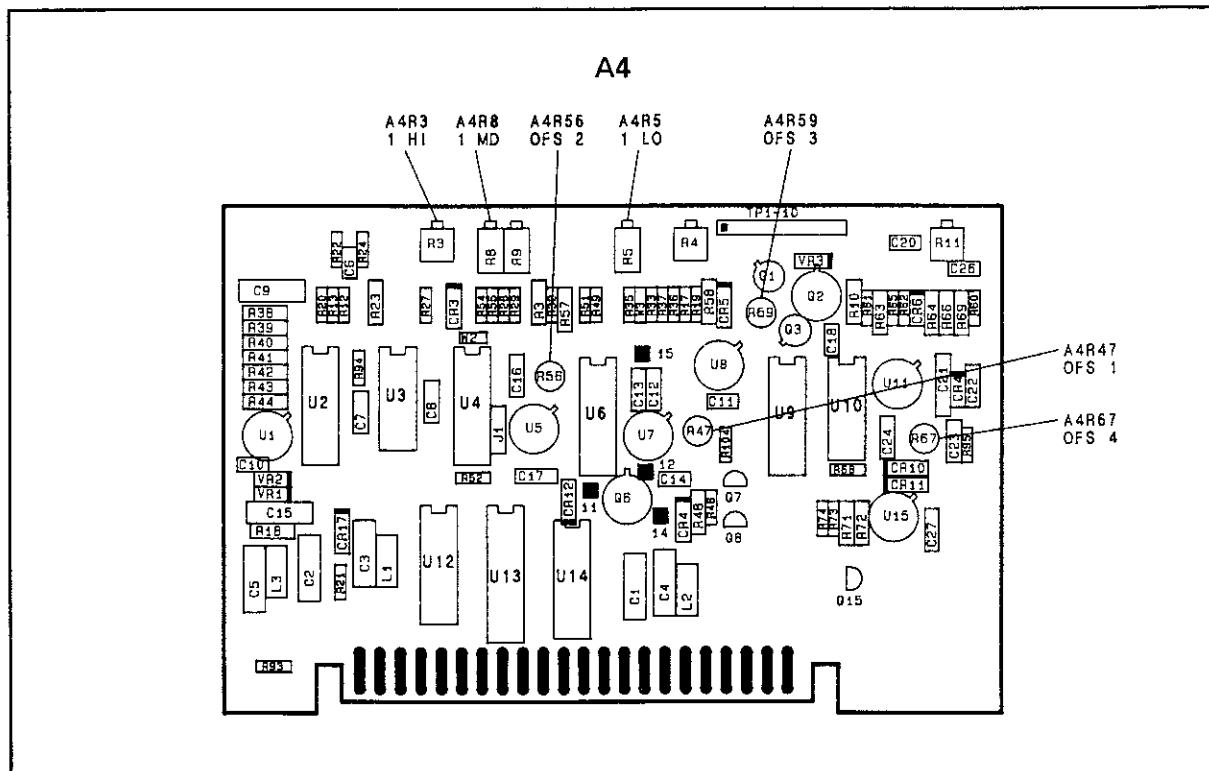

Figure 5-17. A4 ALC Board Adjustment Locations
2. Set the HP 83572A/B output power for a front panel indication of  $-5$  dBm. Adjust "1 LO" (A4R5) (see Figure 5-17) for a power meter reading of  $-10$  dBm  $\pm 0.1$  dB (this corresponds to  $-5$  dBm at the output of the directional coupler).